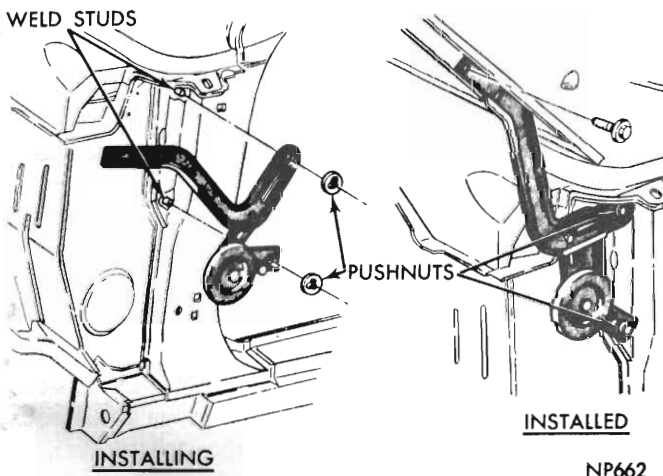

Fig. 16 – Hood hinge and support spring assembly (typical view)
The hood is attached to the cowl panel through two counter-balanced hinges, as shown in *Fig. 16*. The attaching bolt holes of the hinges are oversize, permitting movement of both the hinge and the hood panel for alignment purposes.
The hood hinge assemblies are secured to the cowl panel studs with push nuts (*Refer Fig. 16*). These are accessible after removing the splash shield from the fender.
(1) Protect the rear edge of the front fender with a split length of rubber hose or tape to prevent paint damage.
(2) Remove the front door after marking hinge position.
(3) Prop the hood open with a suitable length of hardwood.
(4) With a padded block of wood support the rear corner of the hood in such a manner as to carry the weight of the hood when the hinge assembly is removed.
(5) With a long, thin chisel split the spring push nuts retaining the hinge to the body and remove nuts.
(6) Mark the position of the hood hinge and remove two screws securing hinge to hood. Remove the hinge from the body.
(7) Paint the replacement hinge to match the body colour.
(8) Assemble the replacement hinge to the body using three new spring push nuts. One nut is used to retain the hinge to the top cowl stud and two to the bottom cowl stud. When replacing the hinge ensure that the fibre spacers are *between* the hinge and the body (refer Fig. 16).
(1) Inspect cowl alignment for clearance, uneven gap, and high or low elevation at the corners.
(2) Prior to adjustment, scribe the hinge position on the hood.
(3) Loosen hood attaching bolts (see Fig. 16) and move hood to desired position to correct alignment at cowl.
(4) Tighten attaching bolts to 180 lbs. in. torque.
(5) Re-check hood and cowl alignment.
(6) If corners of the hood are found to be high or low in relation to the cowl panel, loosen hinge attaching bolts (Fig. 16) and raise or lower the hood as required and re-tighten the bolts to specified torque.